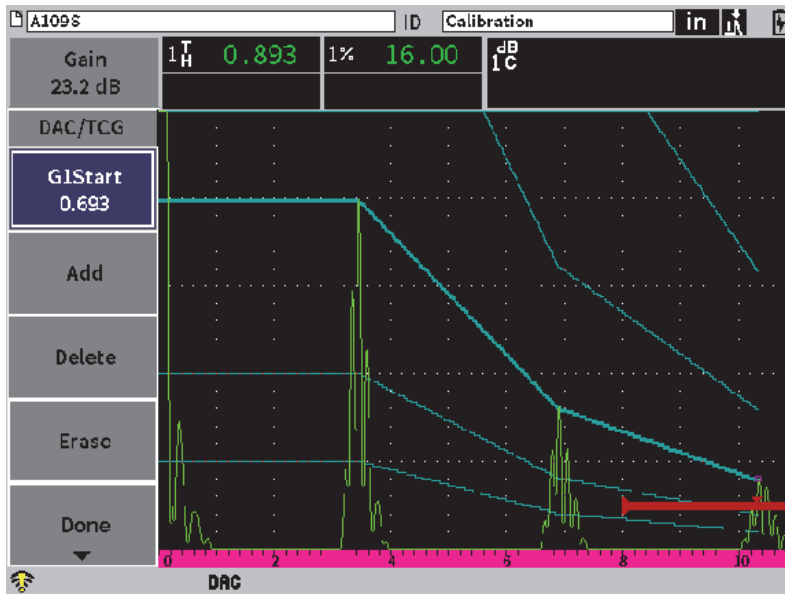

Figure 11-16 JIS curves
4. Adjust the G1 Start value and use the **Add** button to add points and build the desired DAC curve (see Figure 11-16 on page 190).